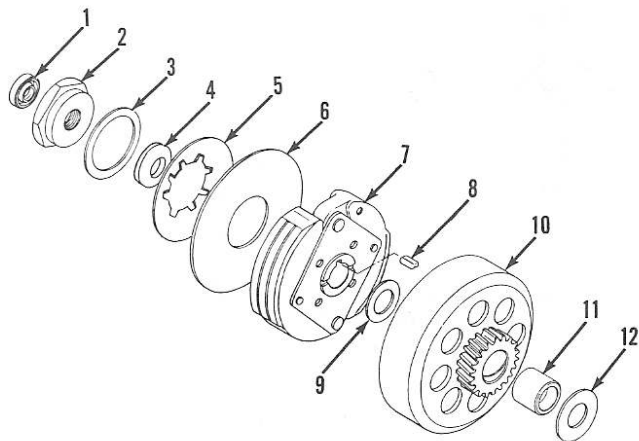

Fig. S1-7—Exploded view of centrifugal clutch used on both models.
R&R AND OVERHAUL. The two-shoe centrifugal clutch is mounted on right end of crankshaft. Clutch should begin engagement at 2400-2800 rpm with complete lockup at 3300-3700 rpm. To remove clutch assembly for inspection or renewal of individual components, first remove clutch cover. Remove retaining nut (2—Fig. S1-7), thrust washer (3), small spring washer (4), large spring washer (5) and guide plate (6). Pull clutch shoe assembly (7) from crankshaft. Remove Woodruff key (8), thrust washer (9), clutch drum (10), spacer (11) and thrust washer (12).